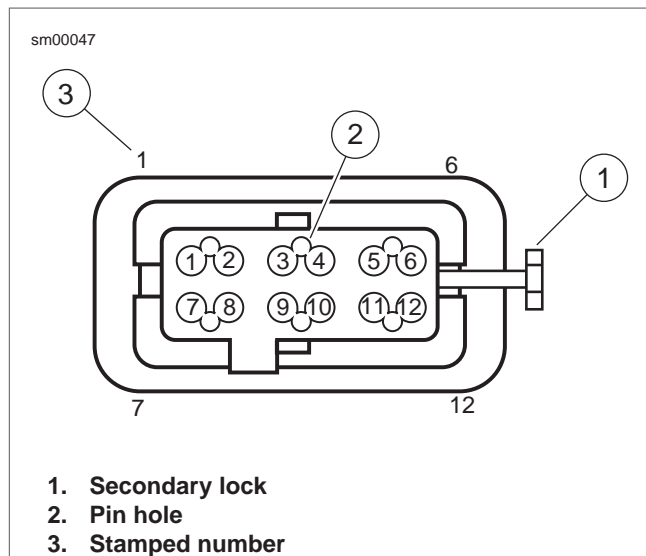

Figure A-43. Packard Micro 64 Connector: Housing
1. See Figure A-43. Locate the head of the secondary lock (1) on one side of the connector housing.
3. Locate pin hole (2) between terminals on mating end of connector.
See Figure A-43. For wire location purposes, the corners of the socket housing are stamped (3) with the numbers 1, 6, 7 and 12, representing terminals 1-6 on one side, and 7-12 on the other.